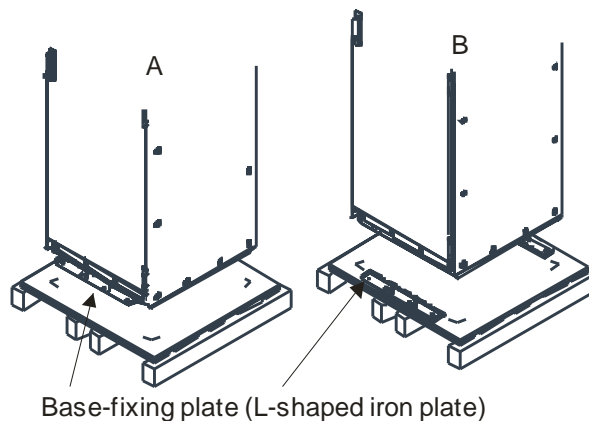

Figure 2-4
1. During installation, the customer can decide whether the 2 base-fixing iron plates (L-shaped iron plates) are needed based on their available equipment and the use requirements, as shown in figure 2-4; A: keep the L-shaped iron plates on the cabinet; B: the L-shaped iron plates not needed.